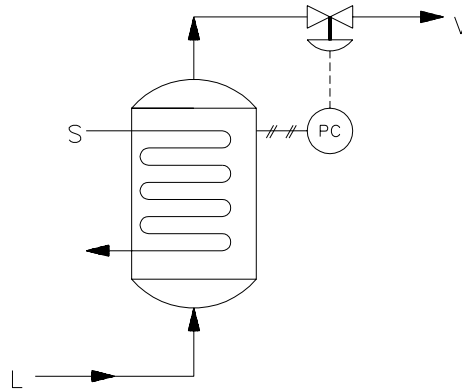

Figure 1: Pressure control in an evaporator.
1. (15 pts) **Systems requiring negative control gains.** Not all systems use positive proportional gains. For instance, the system shown in Figure 1 is a pressure control system of an evaporator. Increasing the flow of vapor out, V , decreases the pressure in the vessel. Suppose the system is described by the following differential equation (after appropriate linearization and use of perturbed variables)